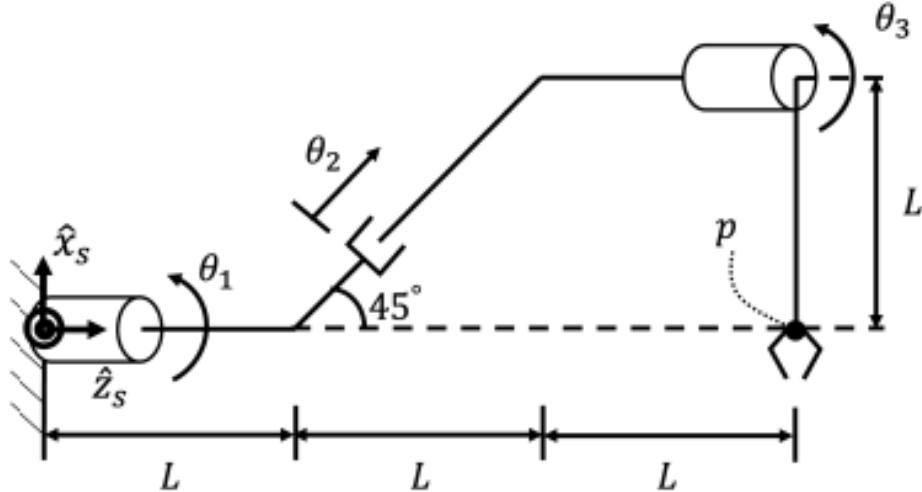

Figure 1: RPR robot in its zero position.
- The RPR robot in Figure 1 is shown in its zero position, with the end-effector position p indicated by the black circle. The joint ranges for the robot are $\theta_1 = [0, 2\pi]$, $\theta_2 = [0, L\sqrt{2}]$, and $\theta_3 = [0, \pi]$. Solve the inverse kinematics problem analytically and explicitly state all solutions for θ_1 , θ_2 , and θ_3 given a desired end-effector position $p = (p_x, p_y, p_z)^T$ specified in the robot's base frame s .